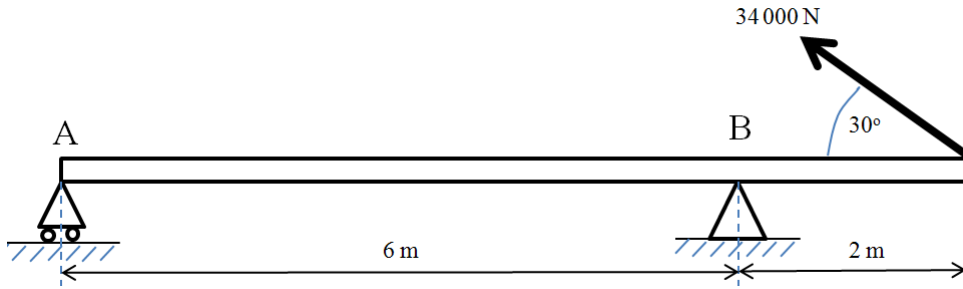

Fig. 2
- (b) Fig. 2 shows the beam supported at points A and B. Point A is at the left end of the beam while point B is 2 m from the right end of the beam. A force of 34 000 N acts at an upward angle of 30° at the right end of the beam as shown.